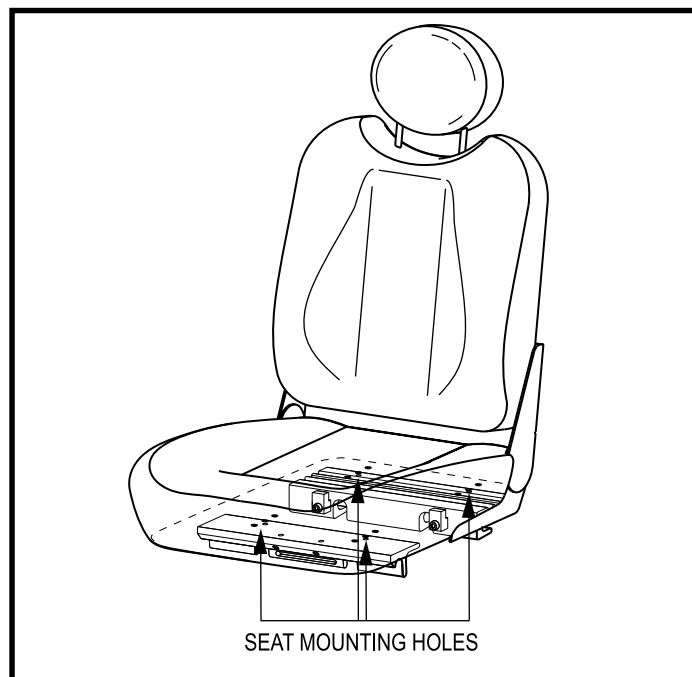

Figure 18. Seat Mounting Holes
4. Remove both extrusions from the bottom of the seat. See figure 18.
5. Reposition the extrusions on a different set of mounting holes. You must move both extrusions the same number of holes either forward or rearward. See figure 18.